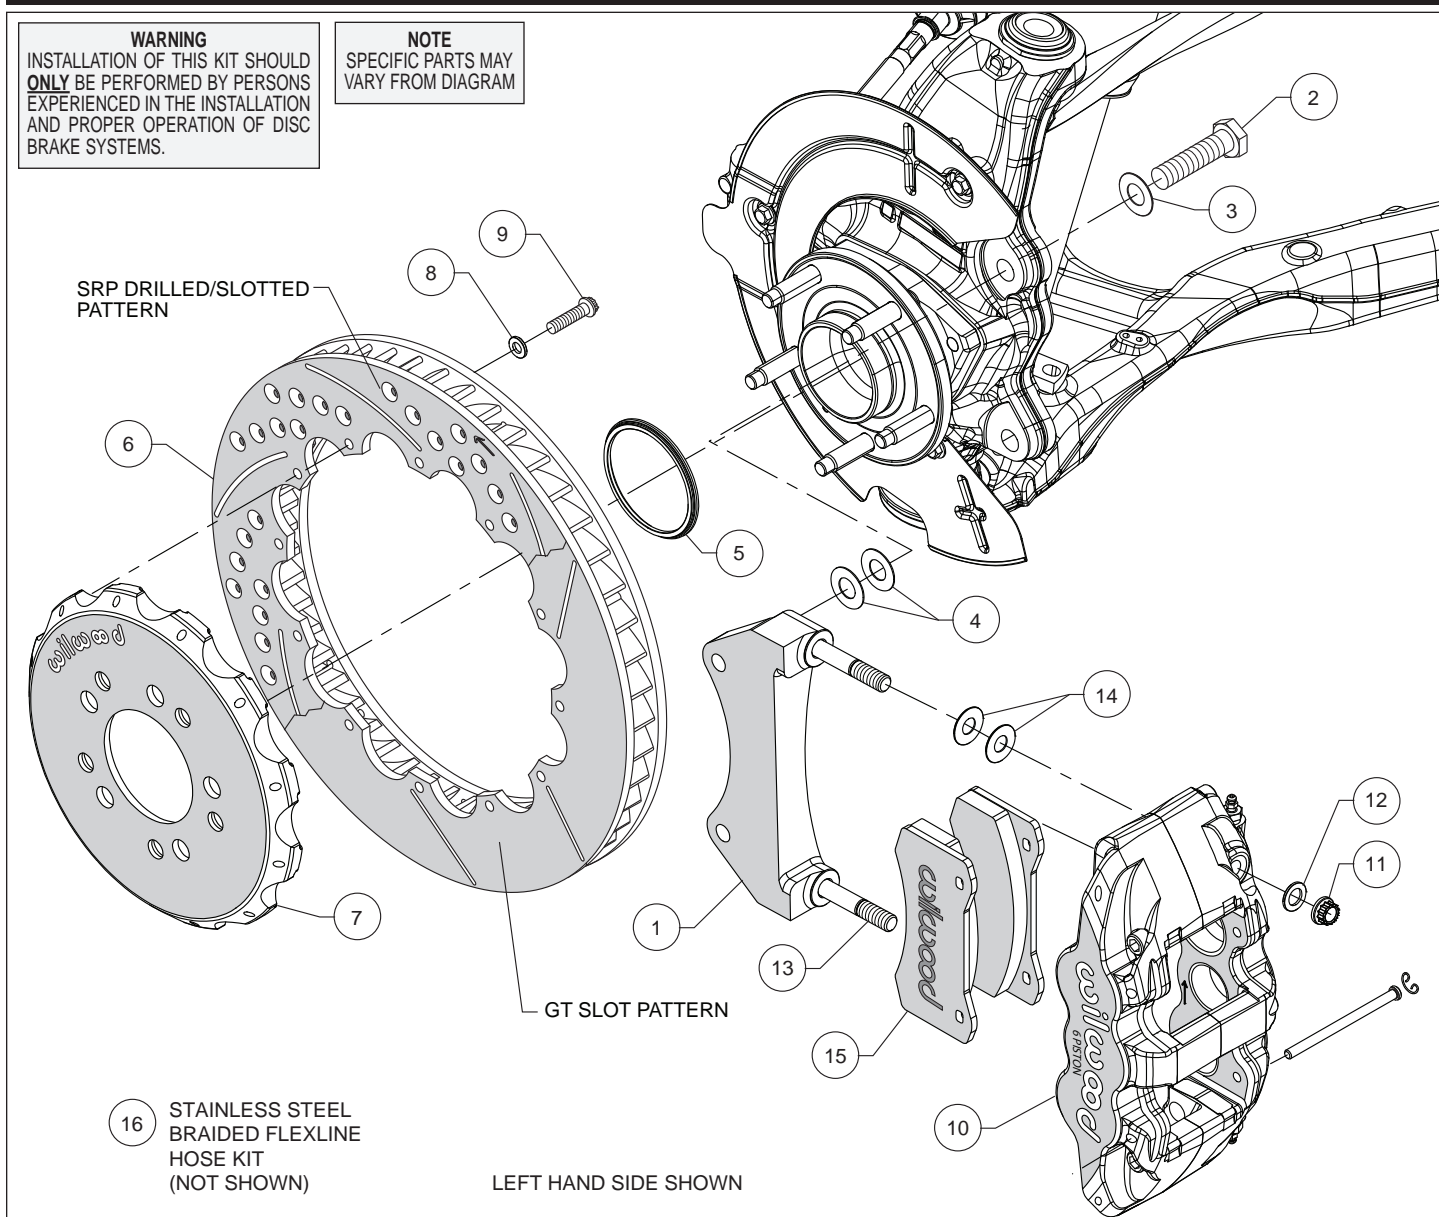
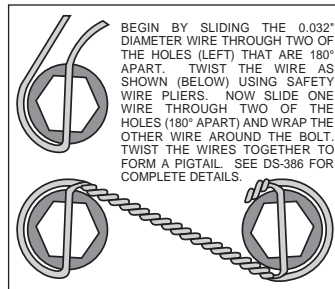

Figure 1. Typical Installation Configuration
Figure 4. Safety Wire Diagram
Assembly Instructions (numbers in parenthesis refer to the parts list and Figure 1 on the preceding pages):
- The caliper mount bracket (1) should initially be installed with clean, dry threads on the mounting bolts. Orient the bracket as shown in Figure 1, and Photo 1 and install using bolts (2) and washers (3). Initially place two .029" thick shims (4) on each bolt between the bracket and upright, Figure 1. Temporarily tighten the mounting bolts. **NOTE: The bracket must fit squarely against the mount bosses on the upright.** Inspect for interference from casting irregularities, machining ridges, burrs, etc. Later, after the caliper alignment has been checked, the mount bolts will be secured using red *Loctite*[®] 271.
- Orient the rotor (6) and the hat (7) as shown in Figure 1 and Photo 2. Attach rotor to hat using bolts (9) and washers (8). Using an alternating sequence, apply red *Loctite*[®] 271 to the threads, and torque to 155 **in-lbs**. For an added measure of security, the bolts may be safety wired using standard 0.032 inch diameter stainless steel safety wire as shown in Figure 4. Please refer to Wilwood's data sheet DS-386 for complete safety wire installation instructions.
- Slide the rotor registration adapter (5) onto the axle register on the axle hub with the smaller O.D. facing outward, Photo 3. Slide the hat/rotor assembly onto the axle hub. **NOTE: The hat must fit flush against the axle hub flange or excessive rotor run out may result.** Install three lug nuts (finger tight) to keep the hat/rotor assembly in place while continuing with the installation, Photo 4.
- **NOTE: This kit contains distinct right and left hand calipers that must be mounted in a specific direction, as described below.** Lubricate the caliper mounting studs (13) with lightweight oil. Initially place two .030" thick shims (14) on each stud as shown in Figure 1 and Photo 5. Mount the caliper (10) onto the bracket (1) using lock nuts (11) and washers (12), Figure 1. Ensure that the caliper is mounted so that the largest pistons are at the rotor exit end of the caliper, in relation to the direction of rotor rotation. Temporarily tighten the lock nuts and view the rotor through the top opening of the caliper. The rotor should be centered in the caliper, Photo 6. If not, adjust by adding or subtracting shims (4) between the bracket and the upright. Always use the same amount of shims on each of the two mounting bolts. Once the caliper alignment is correct, remove the bracket mounting bolts (2) one at a time, apply red *Loctite*[®] 271 to the threads, and torque to 77 ft-lb.
- Remove the two pad retaining pins from the caliper (10) by carefully popping out the pin retaining clips and sliding out the pins. Insert the brake pads (15) into the caliper from the bottom, Figure 1 and Photo 7. With the friction material facing the rotor, secure the brake pads in place with the pad retaining pins and clips, Photo 8. Reinstall the caliper onto the caliper mounting bracket and temporarily tighten the lock nuts. Check that the top of the brake pad is flush with the outside diameter of the rotor, Photo 9. If not, adjust by adding or subtracting shims (14) between the caliper and the bracket. After the caliper pad height is set, torque the caliper lock nuts (11) to 47 ft-lb.